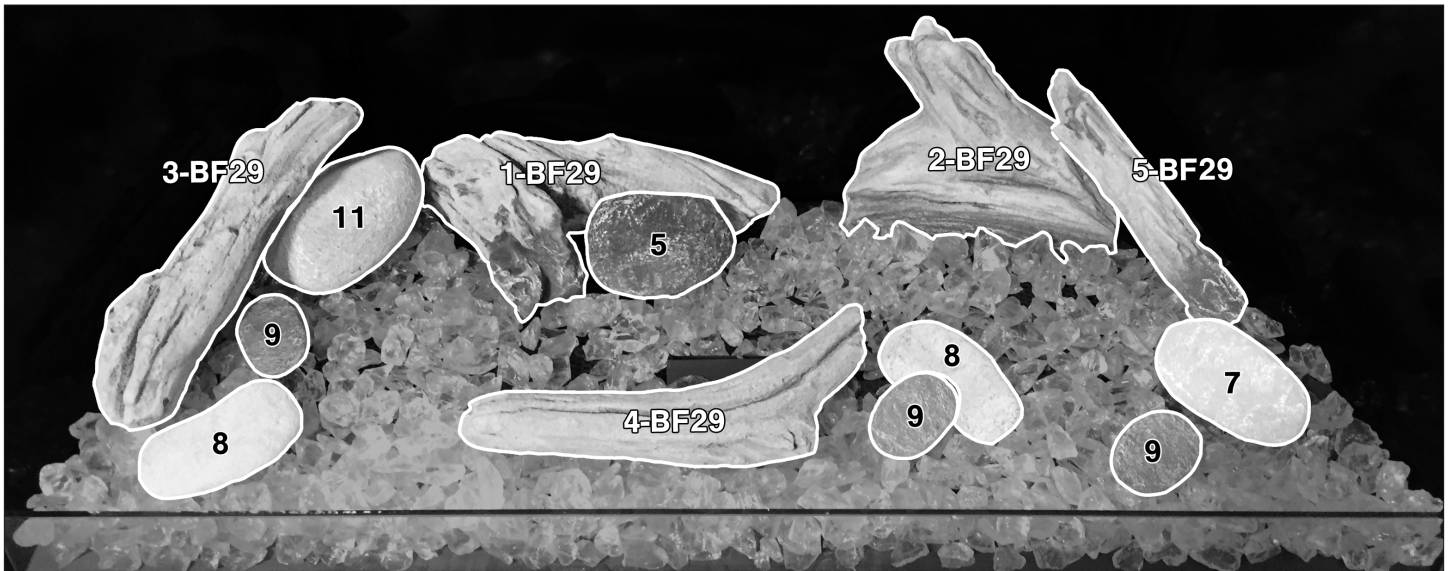

Figure 2, Model #BAY-36-G
4. Place the rest of the rocks as shown in Figure 2.
5. Place logs #3-BF29, #4-BF29, and #5-BF29 as shown in Figure 2.